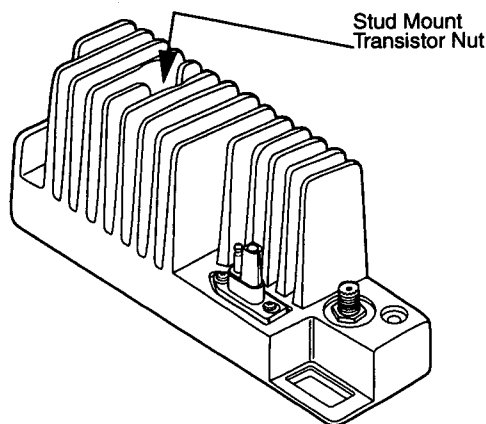

Figure 1-9.
- Remove the stud mount transistor nut from the back of the heatsink using a 5/16" Hex nut driver (Figure 1-9).